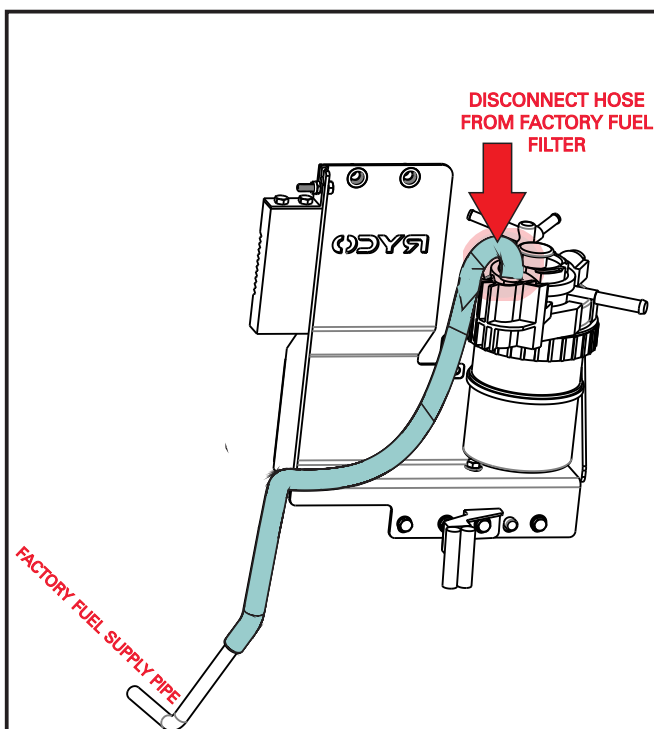

FIG. 5 FACTORY HOSE IDENTIFICATION
5. Locate the fuel inlet hose at the factory fuel filter. Loosen the factory fuel hose clamp and disconnect the fuel supply line coloured green in Fig. 5) from the factory filter. Have a rag ready to capture any diesel that may spill out of the fuel line and the fuel filter. Then install supplied fuel hose clamp and insert the supplied elbow connector (MS4081) onto the end of fuel supply line, do not tighten fuel hose clamps yet.
6. Mount the Z980K fuel filter assembly onto the fuel filter bracket facing to the engine using the two (2) black M10 bolts and washers supplied with the Z980K.
3. Connect the small end of Ryco PCV hose MH9808B (coloured green in Fig. 5) to the engine PCV valve outlet using the supplied hose clamp MS4092. Connect the larger diameter end to the lower port of the RCC351. Secure with the supplied hose clamp MS4091.
4. Connect a supplied straight hose joiner MS4100 to the small diameter end of the Ryco PCV hose MH9808B (coloured orange in Fig. 5) and secure with a supplied hose clamp MS4094.
5. Connect MH9808B to the factory PCV hose (coloured yellow in Fig. 5) via the hose joiner and secure with a supplied hose clamp, then connect the large diameter end to the upper port of the RCC351 and secure with a supplied hose clamp MS4091.